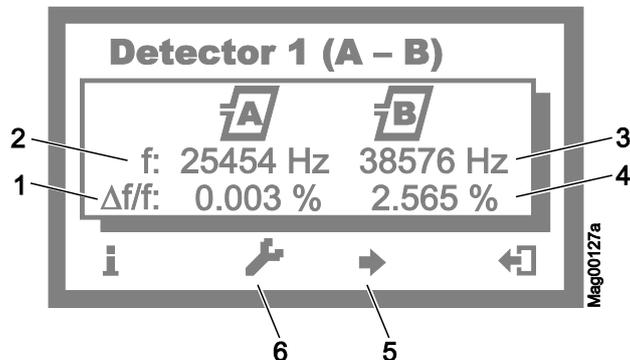

Fig. 22: Example "View – Menu Detector 1 (A-B)"
3. Press the left control button repeatedly, until the menu "Detector 1 (A-B)" is displayed. → See page 83, Fig. 22.